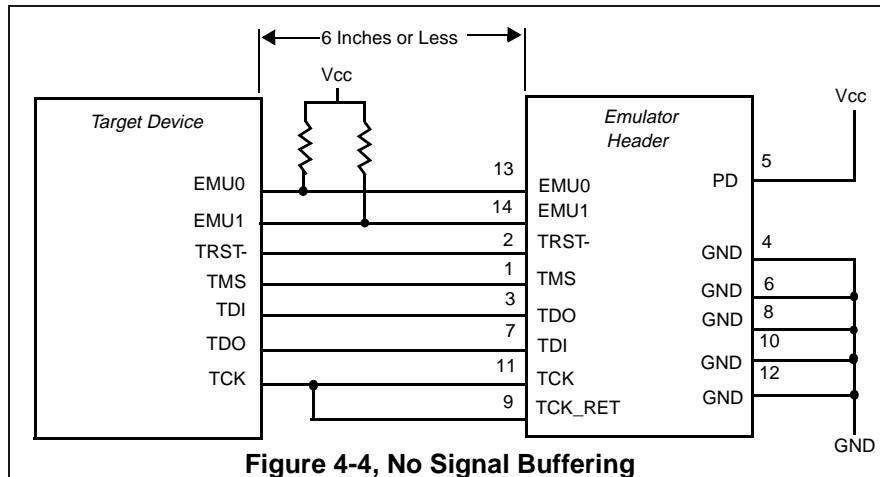

Figure 4-4, No Signal Buffering
- **No signal buffering.** As shown in figure 4-4, the distance between the header and the target device should be no more than 6 inches.